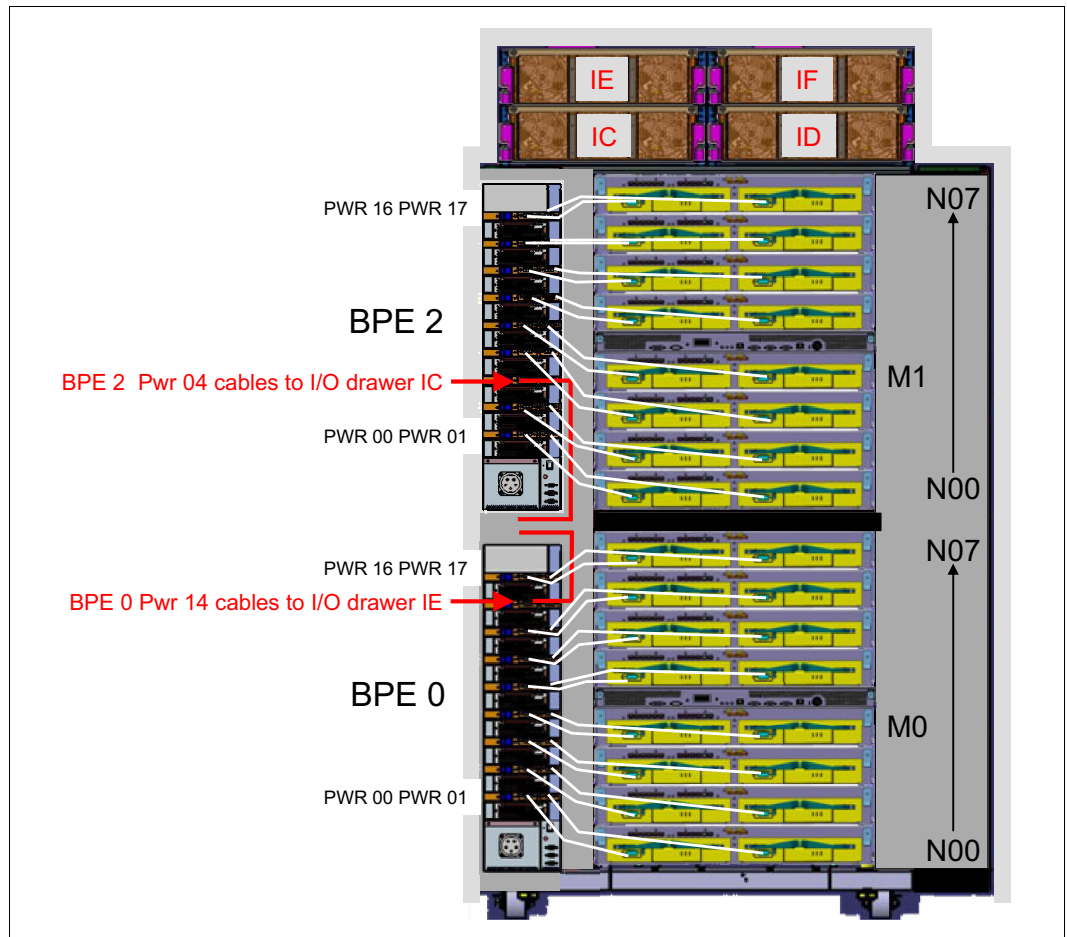
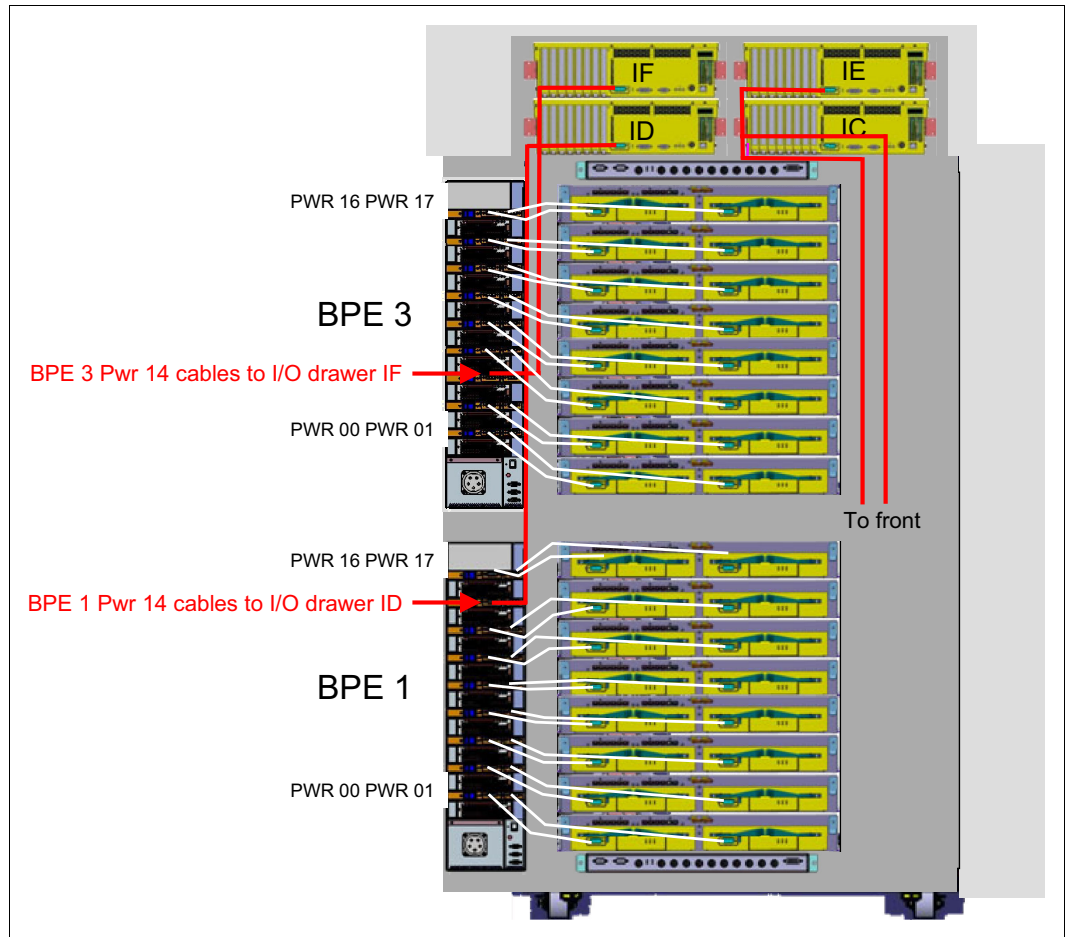
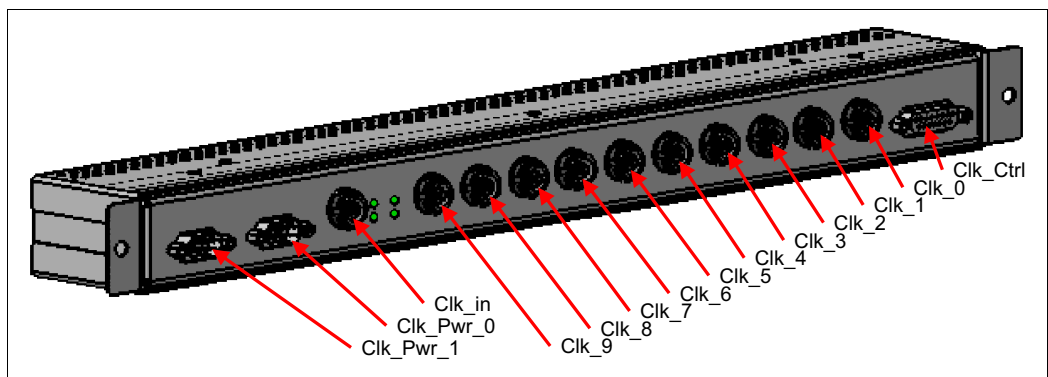

Figure 1-27 BPE to DCA power connection layout (front)
Figure 1-29 BPE to DCA power connection layout (back)
Figure 1-35 Clock card with naming
See Figure 1-27 on page 22 through Figure 1-29 on page 24 for power connection locations for the I/O drawers.
Figure 1-27 shows the power cabling for the front of a system with two midplanes.
Figure 1-29 on page 24 shows the power cabling for the rear of a system with two midplanes.
Figure 1-35 shows the clock card.
5. If this clock is the master clock on the system, connect the master clock cable (PN 44V8223) to the Clock_Ctrl connector on the clock card (see Figure 1-35 on page 29) and the Clock_Ctrl connector on service card M0 on that rack (see Figure 4-25 on page 90). Thread this cable in the same location as the dc power cables (see Figure 1-27 on page 22).